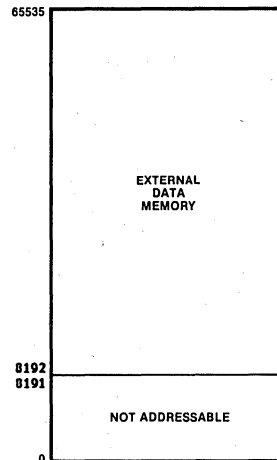

Figure 5. Data Memory Map
**Data Memory.** The Z86C21 can address 56K bytes of external data memory beginning at location 4096 (Figure 5). External data memory may be included with or separated from the external program memory space.  $\overline{DM}$ , an optional I/O function that can be programmed to appear on pin P34, is used to distinguish between data and program memory space.